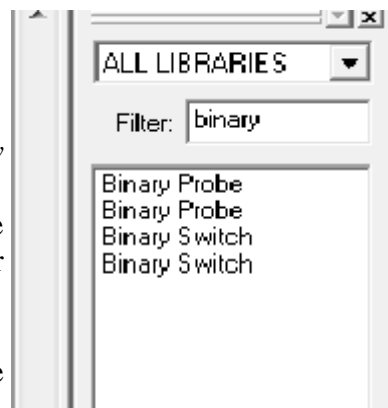

Figure 10-6
- Double click on the binary switch entry and place three of them on the schematic on the left of your design as shown in Figure 10-6.